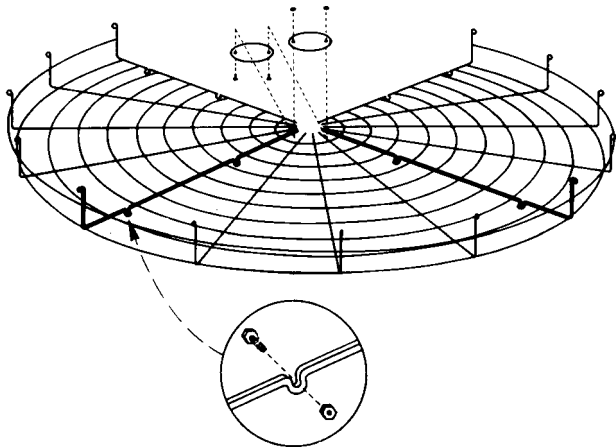

Figure 3 - Assemble Bottom Section
1. Place three guard bottom sections on flat surface (floor) and connect together in  $\frac{3}{4}$  circle using enclosed  $1\frac{1}{8}$ " bolts, washers, lockwashers and  $\frac{5}{16}$ " nuts. (See Figure 3)